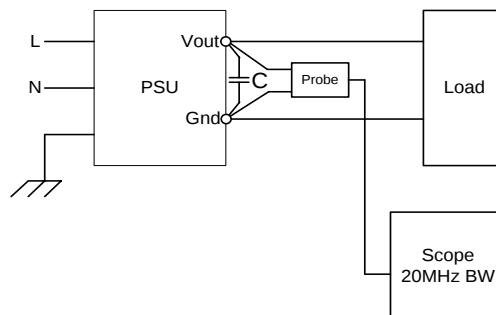

Figure 15. Differential Noise Test Setup
- Outputs bypassed at the point of measurement with a parallel combination of 10 μ F tantalum capacitor in parallel with 0.1 μ F ceramic capacitors, referring the setup in Figure 15